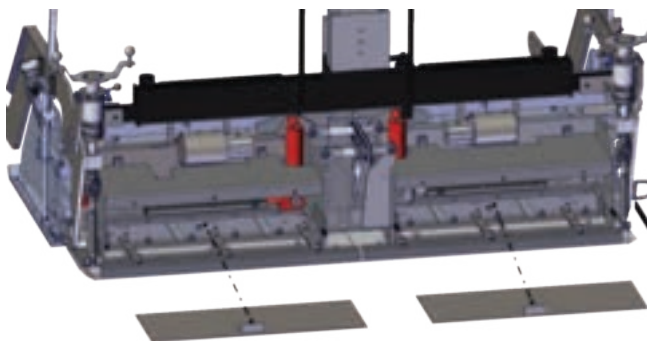

Figure 5-41. Inner Screed Element Covers
5. Grasp handle and slide out inner screed element covers as shown in **Figure 5-41** to access wear plate bolts.